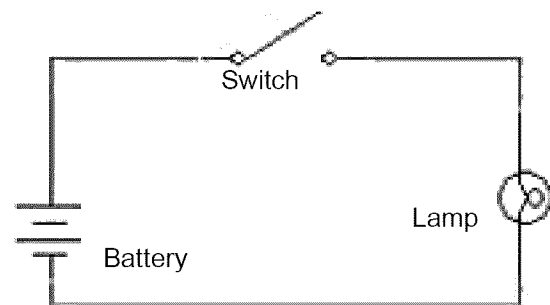

Figure 7.28
- Series circuits are wired so that the current has only one path to follow. If one component in the system fails, the circuit will be broken and whole system will not work. See Figure 7.28.